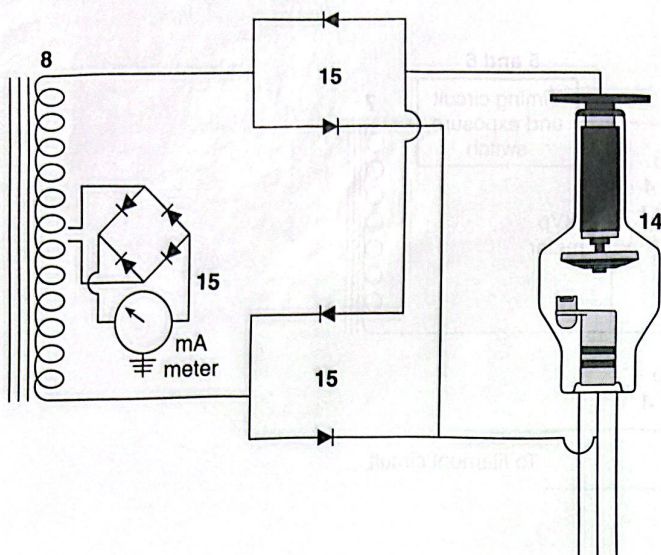
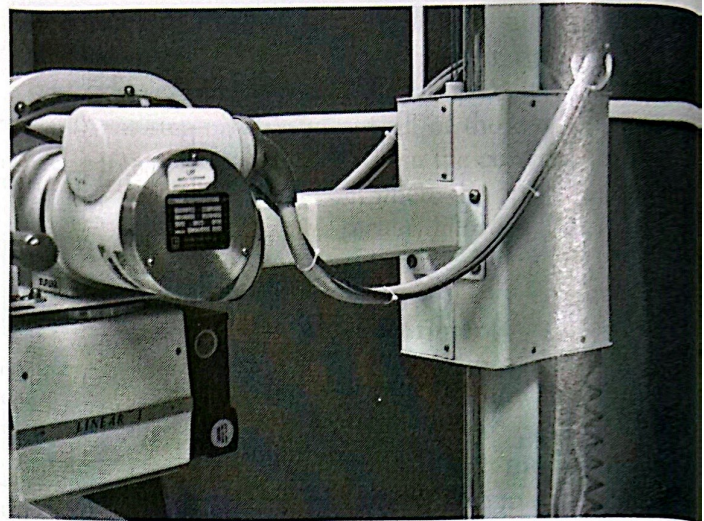

Fig. 6.3 High-voltage circuit.
Fig. 6.4 High-voltage cables going into the x-ray tube. Note their large size because of the high-voltage electricity moving in the copper wire.
The high-voltage circuit is the subcircuit shown in the upper right portion of Fig. 6.1. It is expanded in Fig. 6.3. This circuit begins and ends with the secondary side of the *step-up* transformer (8). It includes the x-ray tube (14) and the rectifier unit (15). *Current flows in this circuit only during an exposure.* This is a dangerous circuit because of the very high voltage. The high-voltage cables going to the x-ray tube are very thick because of their high insulation requirement (Fig. 6.4).